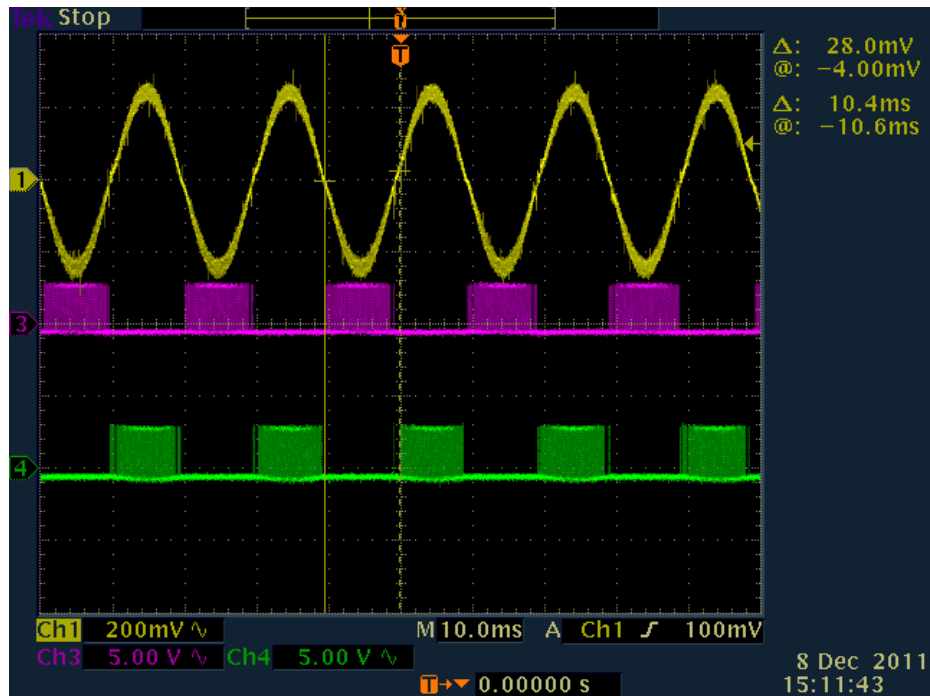

Fig 23 Unipolar Modulation for full bridge inverter, Ch1: Vac-FB, Ch3: PWM-H1, Ch4: PWM-H2
21. Fig 23 shows a captured plot of these signals along with the output voltage Vac-FB. Note that one PWMs are modulated in unipolar fashion, with one set H/L PWMs switching in one half cycle and other set in the other half cycle.